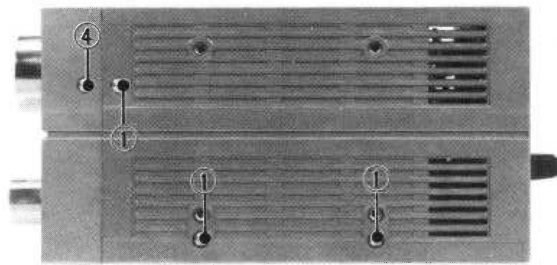

Fig. 14
2. Top cover (Fig. 14, 15)
3. Front cover (Fig. 14, 17)